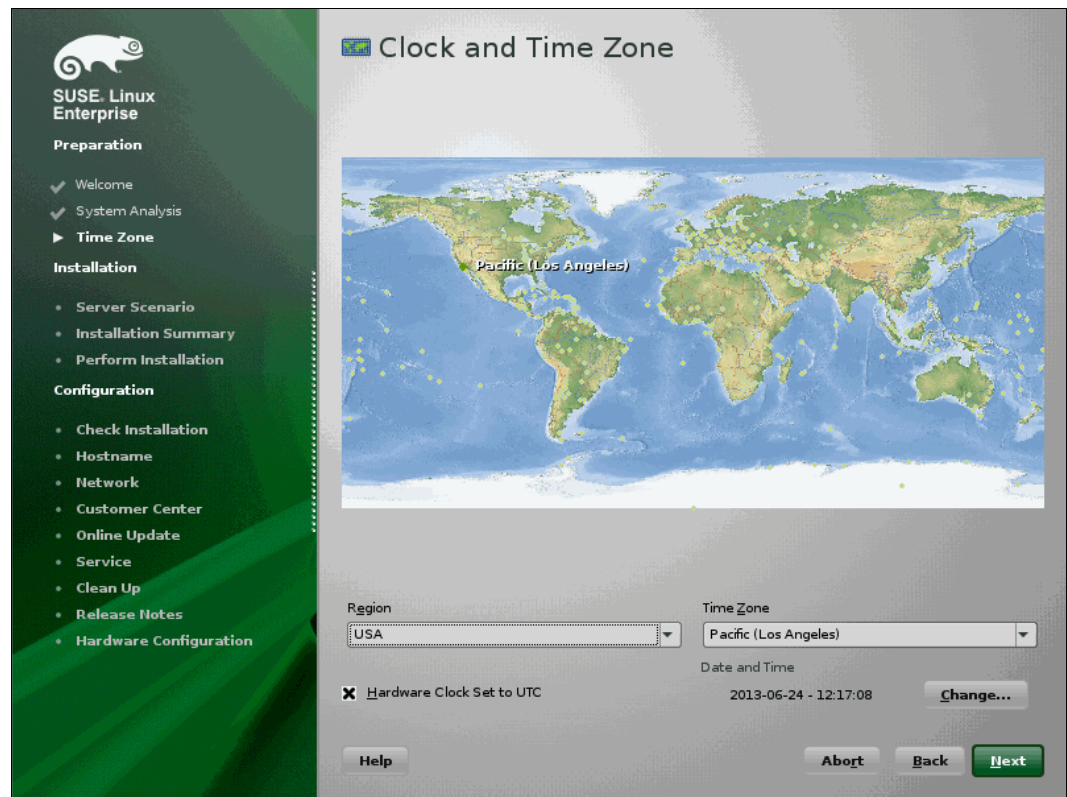

Figure 9-44 Clock and Time Zone
11. In the Clock and Time Zone panel (Figure 9-44), select the right time zone, and click **Next**.